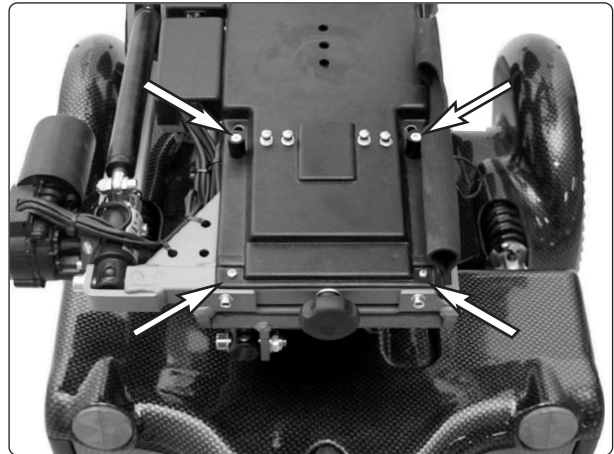

Fig. 92. The cover is mounted using four screws.
3. Remove the cover that surrounds the inhibit switches. The cover is mounted with four screws, see Fig. 92.
5. Remount the covers and seat plates. See Figs. 92 and 91.